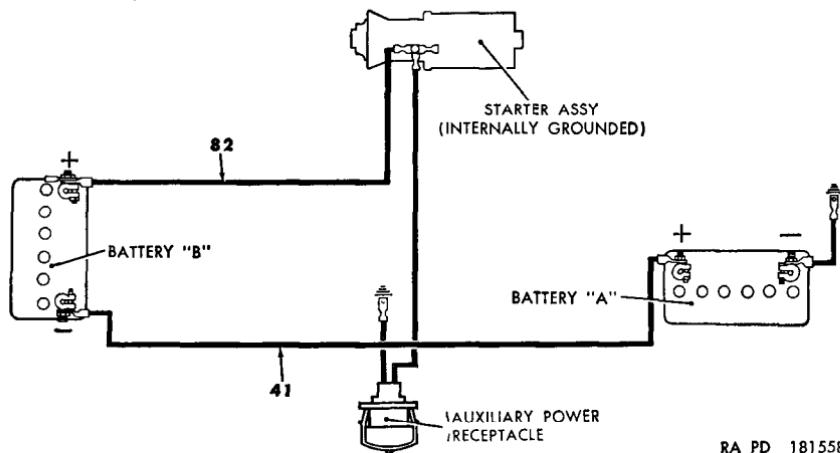
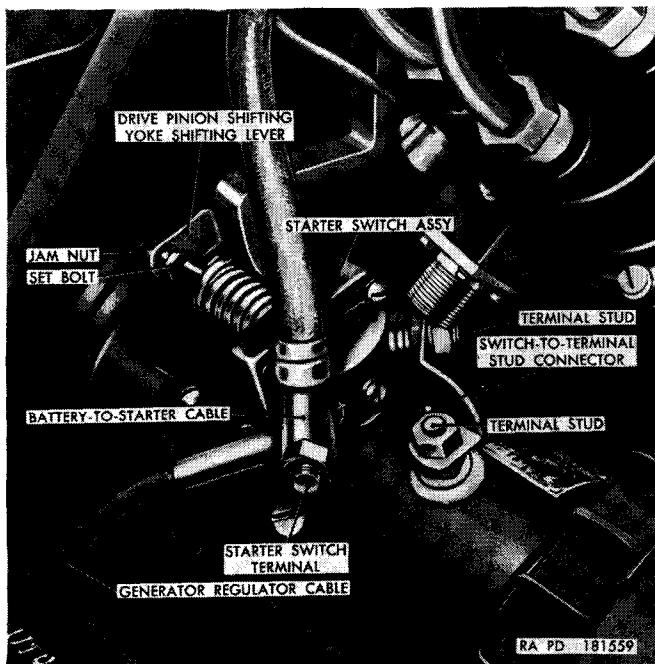
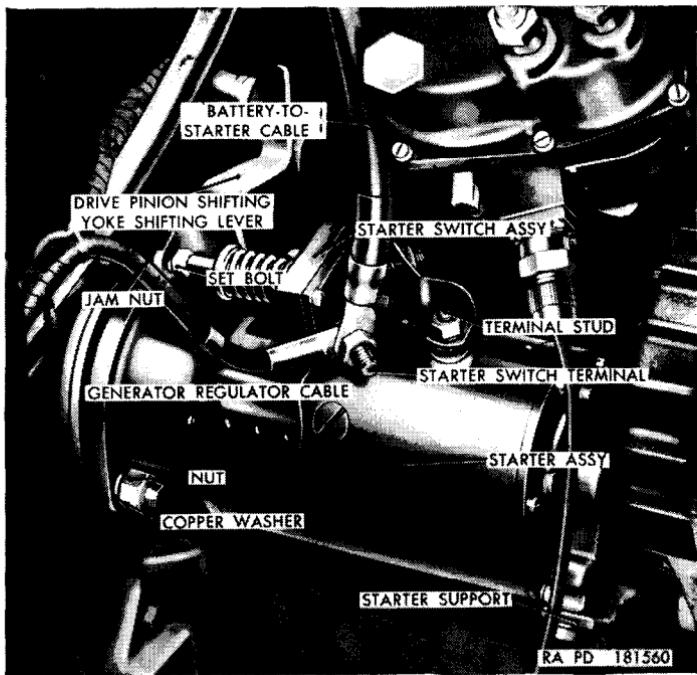

Figure 62. Starting system circuit.
Figure 63. Starter switch terminal—cable No. 12 removed.
Figure 64. Starter installed on engine.
a. *Description.* The starting system (fig. 62) consists of the starter, the starter switch, and starter pedal assemblies; the batteries, connecting linkage and electrical cables, and in some cases an auxiliary power receptacle for cold-weather starting.
The auxiliary power cable receptacle with connecting cables is considered a part of the starting system as it is the connection for the application of any outside power source such as a booster battery or a charging and starting power unit. The starter pedal assembly engages the starter drive pinion with the flywheel ring gears, and also operates the starter switch assembly. The starter assembly (fig. 64) is a fully sealed, waterproof unit, mounted on the front of the flywheel housing, at the right side. The starter switch assembly (fig. 64) is a separate unit, mounted on top of the starter assembly. The drive incorporates an over-running clutch, which automatically disengages when the engine starts. The starter bearings are lubricated at assembly and require no further lubrication.
a. Removal. Loosen the lead-coated nut securing the battery-to-starter cable No. 82 terminal to the positive terminal of battery "B" (fig. 62), and remove the cable from the terminal stud. Pull the cable out of the battery box to avoid accidental contact with the battery terminal. Remove the terminal nut, lockwasher, battery-to-starter cable, generator regulator cable, and auxiliary power receptacle cable (if vehicle is equipped with an auxiliary power receptacle) from the starter switch terminal (fig. 63). Remove the bolt and lockwasher securing the starter assembly to the starter support (fig. 64). Remove the nut and copper washer (fig. 64) from bolt, and remove the bolt and copper washer from the starter clutch and pinion housing assembly and the flywheel housing. Remove the screw and lockwasher in the upper hole of the clutch and pinion housing assembly securing the starter as-
b. Installation. Insert the drive pinion end of the starter assembly into the flywheel housing, and position the starter. Place a $\frac{1}{2}$ -inch copper washer on the $\frac{1}{2} \times 3\frac{1}{2}$ bolt and insert the bolt through the flywheel housing, through the starter clutch and pinion housing assembly, and install a $\frac{1}{2}$ -inch copper washer and $\frac{1}{2}$ -inch nut on the bolt. Install the $\frac{1}{2} \times 1\frac{1}{4}$ screw and lock washer through the upper hole in the clutch and pinion housing assembly and screw into the flywheel housing. Secure the front of the starter to the starter support (fig. 64) with $\frac{3}{8} \times \frac{7}{8}$ bolt and lockwasher. Place the battery-to-starter cable, generator regulator cable, and the auxiliary power receptacle cable, if used, on the starter switch terminal (fig. 63) and install the $\frac{7}{16}$ -inch lock washer and terminal nut. Coat the starter switch terminal and cable terminals with ignition insulation compound. Insert the battery-to-starter cable through the rubber grommet in the battery box, place the cable terminal onto the stud on the battery "B" positive terminal (fig. 62), and install the $\frac{5}{16}$ -inch lead-coated nut. Coat the battery terminal with artillery and automotive grease (GAA).
a. Removal. Loosen the nut securing the battery-to-starter cable No. 82 terminal to the positive terminal of battery "B" (fig. 62) and remove the cable, from the terminal stud. Remove the terminal nut and lockwasher securing the battery-to-starter cable (fig. 63), generator regulator cable, and auxiliary power receptacle cable, if used, to the starter switch terminal, and remove the cables. Remove the nut and lockwasher from the terminal stud (fig. 63) on the starter assembly. Remove the nut and lockwasher from the terminal stud (fig. 63) on the starter switch assembly, and remove the switch-to-terminal stud connector (fig. 63). Remove four bolts and lockwashers securing the starter switch assembly to the starter assembly and remove the starter switch assembly.
b. Installation. Place the starter switch assembly on the starter assembly and install four No. 10 x $\frac{5}{8}$ bolts and lockwashers holding switch to starter. Place the switch-to-terminal stud connector (fig. 63) over the terminal studs on the starter and starter switch. Install the $\frac{7}{16}$ -inch nuts and lockwashers securing the connector to the terminal studs. Place the battery-to-starter cable, generator regulator cable, and the auxiliary power receptacle cable, if used, on the starter switch terminal. Install $\frac{7}{16}$ -inch lockwasher and terminal nut. Insert the battery-to-starter cable through the grommet in the battery box and place the terminal over the positive terminal stud on battery "B" (fig. 62). Install the $\frac{5}{16}$ -inch lead-coated nut securing the battery-to-starter cable to the terminal. Coat terminal with artillery and automotive grease (GAA) and check the operation of the starter switch assembly. If the switch does not make contact so that starter operates, adjust (*c* below).
c. Adjustment. Loosen the jamnut (fig. 63) on the setbolt in the drive pinion shifting yoke shifting lever. Depress the starter pedal as far as possible. Adjust the setbolt in or out until the starter switch makes a good contact, and tighten the jamnut. Release the starter pedal, wait a few seconds, and try the pedal again. If adjustment is correct, the starter will operate properly.